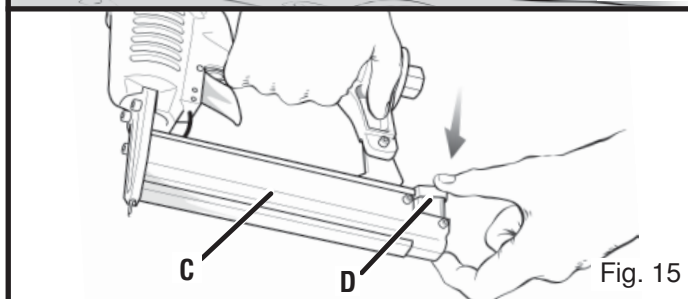

Fig. 15
- 3) Release the outer part of cartridge (C) from the locked position, pressing lever (D) (Fig. 15).